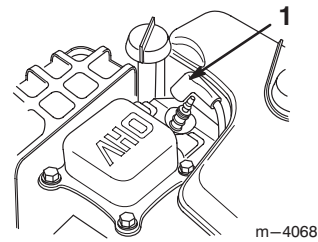

Figure 32
2. Disconnect the wire from the spark plug and ensure that the wire does not contact the plug (Fig. 32).
1. Disconnect the wire from the spark plug and ensure that the wire does not contact the plug (Fig. 32).